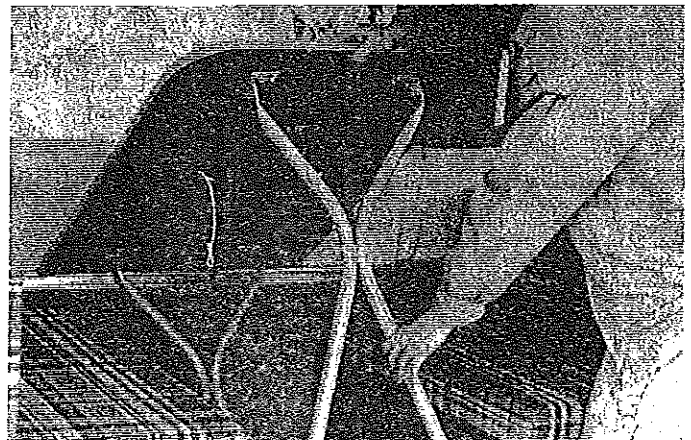

FIGURE 29
39. Extend the table legs completely so that both leg supports lock into position. Set table upright and check to insure it is stable. (See Figure 29.)
13. Secure the dinette table by locating it on the rests between the bench seats. See Figure 29.